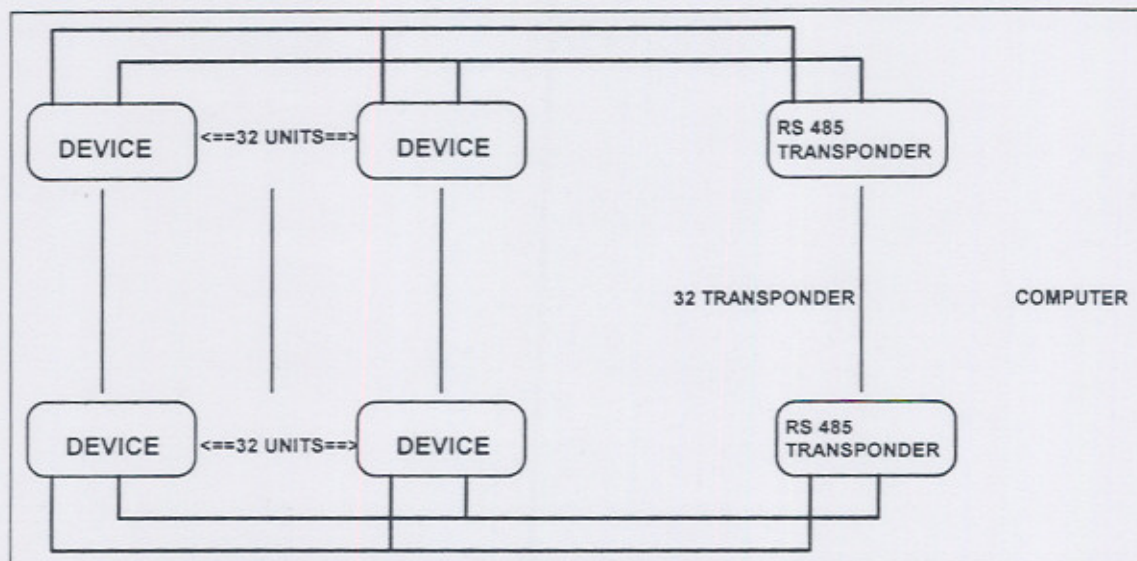

Figure 3.4 2-Wire RS-485 Communication Installation Connection with Transponder
- In a two-wire connection, a maximum of 900 instruments can be included in the same network, (Figure 3.4).